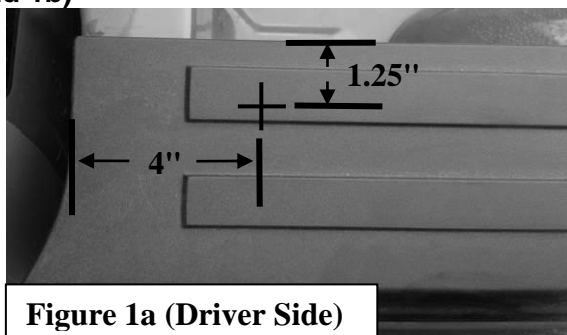

Figure 1a (Driver Side)
1. Measure, mark, and drill a ½" hole in the center of the two hidden **FRONT** stake pocket hole locations on the driver side and passenger side plastic rail caps. Location marked in **(Figure 1a and 1b)**